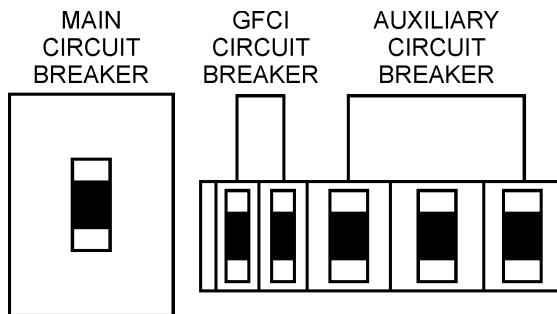

Figure 48. Main, Aux. and GFCI Circuit Breakers (OFF)
1. Place both the **MAIN, GFCI and LOAD** circuit breakers as shown in Figure 48 to the **OFF** position.